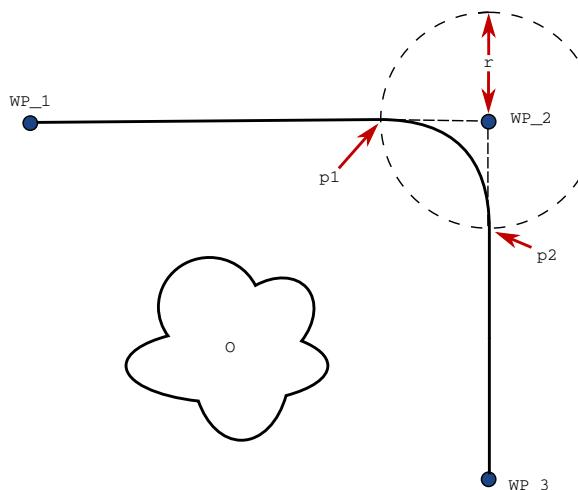

Figure 15.3: Blend over WP\_2 with radius  $r$ , initial blend position at p1 and final blend position at p2. o is an obstacle.
**Blend parameters** Apart from the waypoints, multiple parameters will influence the blend trajectory (see figure 15.3):